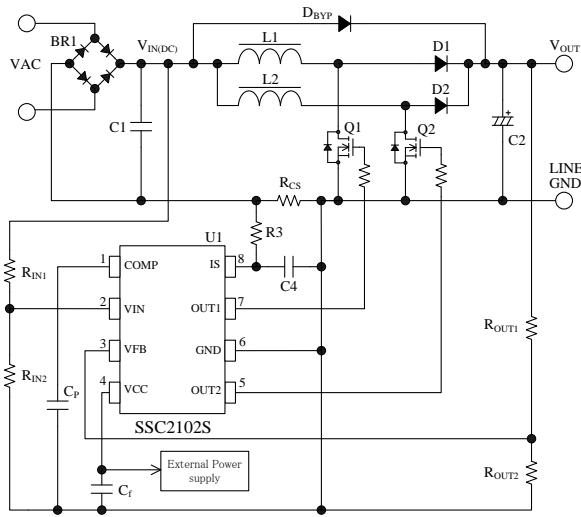

Figure 9-1 IC peripheral circuit
- P_o : PFC Output power per phase (W)
- $V_{INRMS(MIN)}$: Minimum input RMS voltage (V)
- $V_{INRMS(MAX)}$: Maximum input RMS voltage (V)
- V_{OUT} : PFC output voltage (V)
- I_{INRMS} : Input RMS current (A)
- The symbols of components are defined as shown in Figure 9-1.